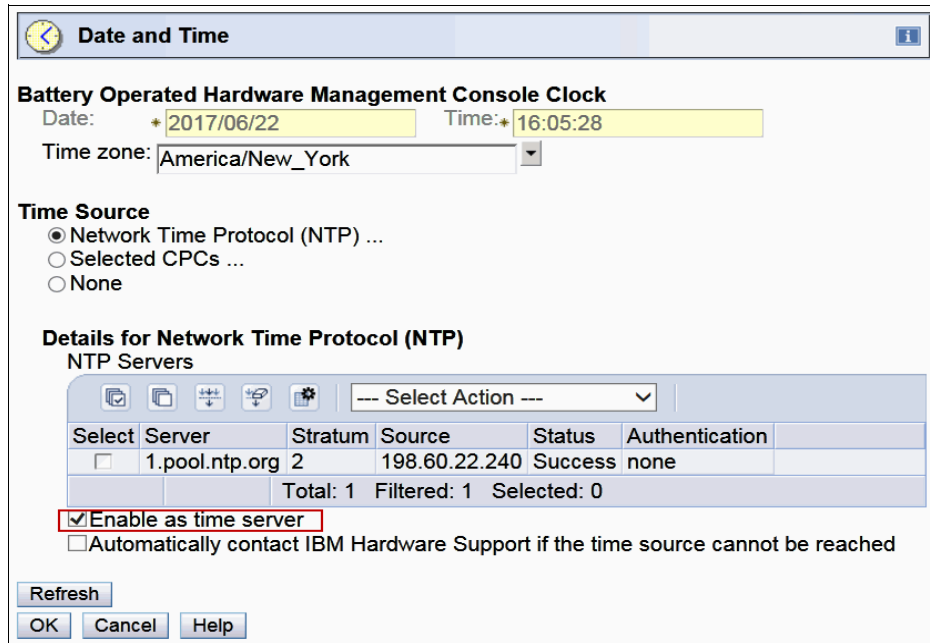

Figure 8-9 Configuring as NTP Server
- After NTP Servers are successfully added to the HMC, the Customize Console Date and Time window looks similar to the window that is shown in Figure 8-9. Select **Enable as time server** and click **OK** (see Figure 8-9).